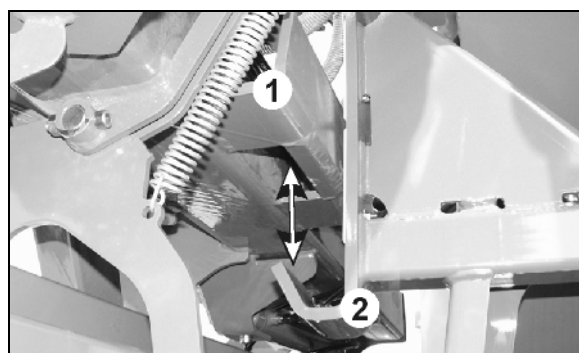

Fig. 108
- The machine wings (Fig. 108/1) lift out of the transport locking (Fig. 108/2).